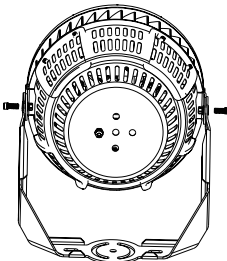

Fig. 1
1. Attach the yoke bracket to the housing using the provided M10 screws (Fig 1).